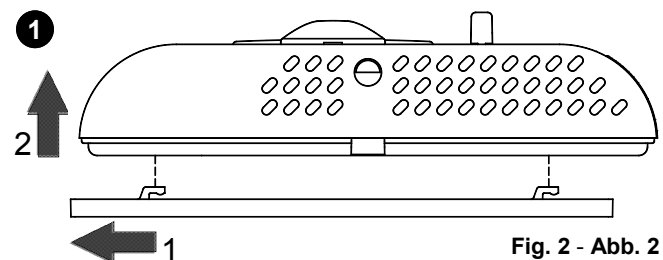

Fig. 2 - Abb. 2
- 1 Release the plate attached to the thermostat base by pushing it to the left. This releases the teeth shown in Fig. 2.